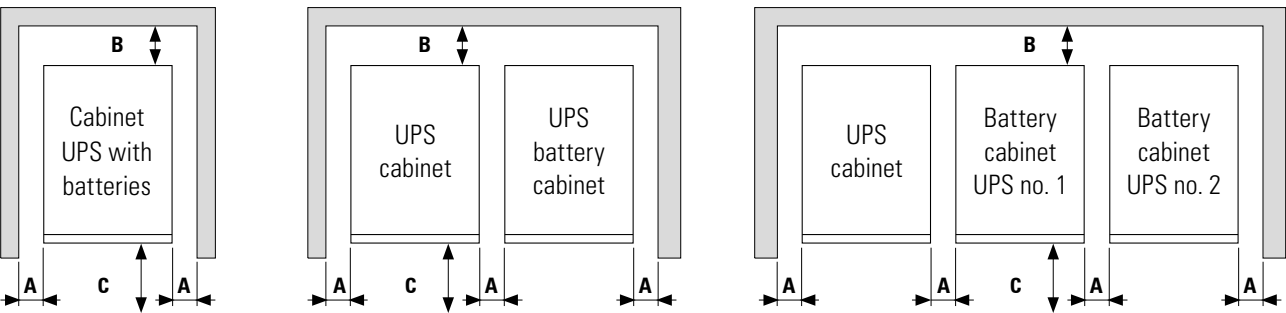

Fig. 29. Minimum peripheral dimensions for ventilating the UPS tower version.
- By way of example, Fig. 29 shows configurations composed of a single UPS cabinet: a UPS with batteries inside, a UPS with an external battery cabinet and a UPS with extended autonomy with two external battery cabinets.